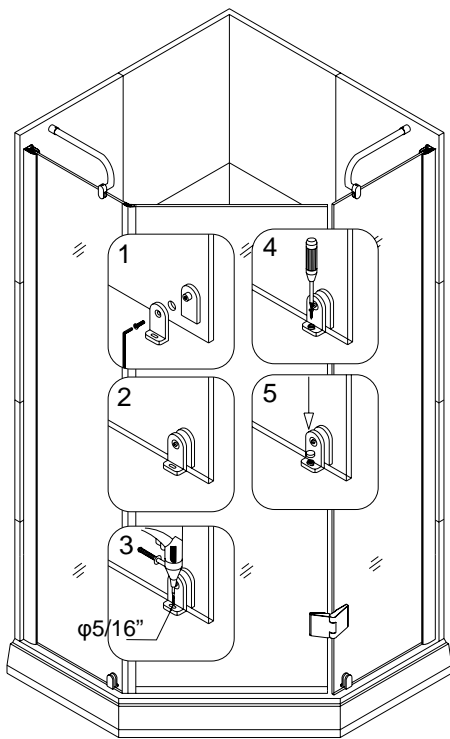

Fig 7
8. Install the **Glass Brackets (18)** onto the stationary glasses. Adjust the glass door to ensure proper seal on the magnets and outline the glass bracket positions. Drill the holes and secure the glass brackets in place with **Screw ST4.2x25 (17)** covering the screw heads with **Decorative Covers (19)**. See Fig.7 for details.